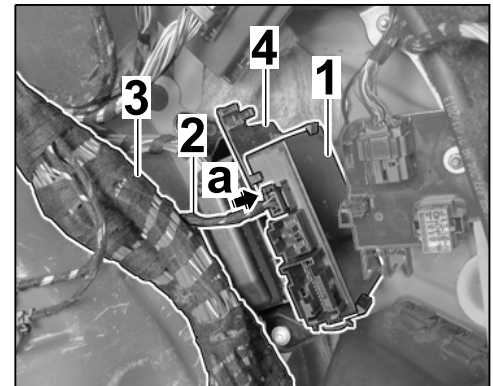

Figure 5
2.2.1 Clip towbar system control unit into bracket (⇒ *Figure 5*).
2.2.3 Connect towbar system preparation plug to the trailer hitch control unit (⇒ *Figure 5 -a-*).